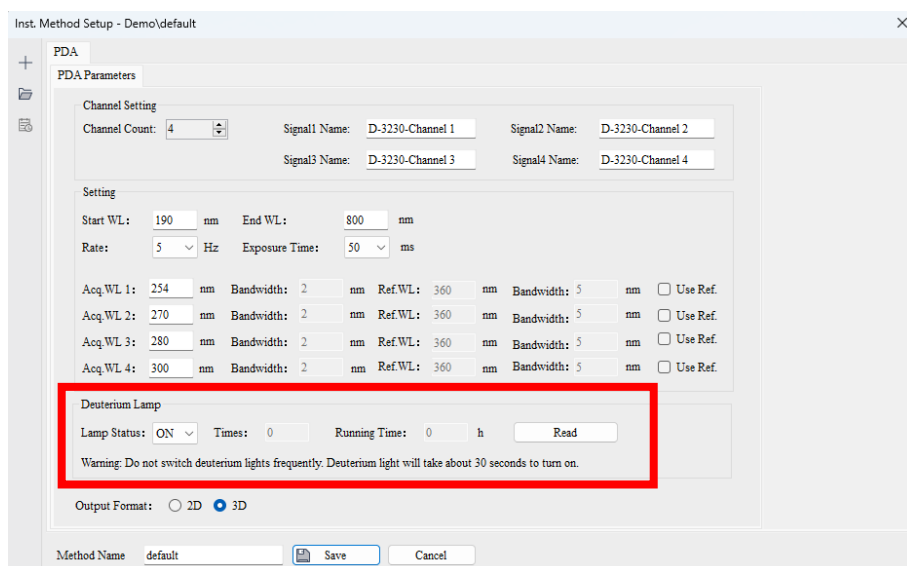

Fig.4-52 Setting light source status
- 2) In the "Instrument Method Settings" page, select the "PDA" TAB, you can set the light source status (on or off) in the "PDA Parameters" page, as shown in the red box in Fig. 4-52.